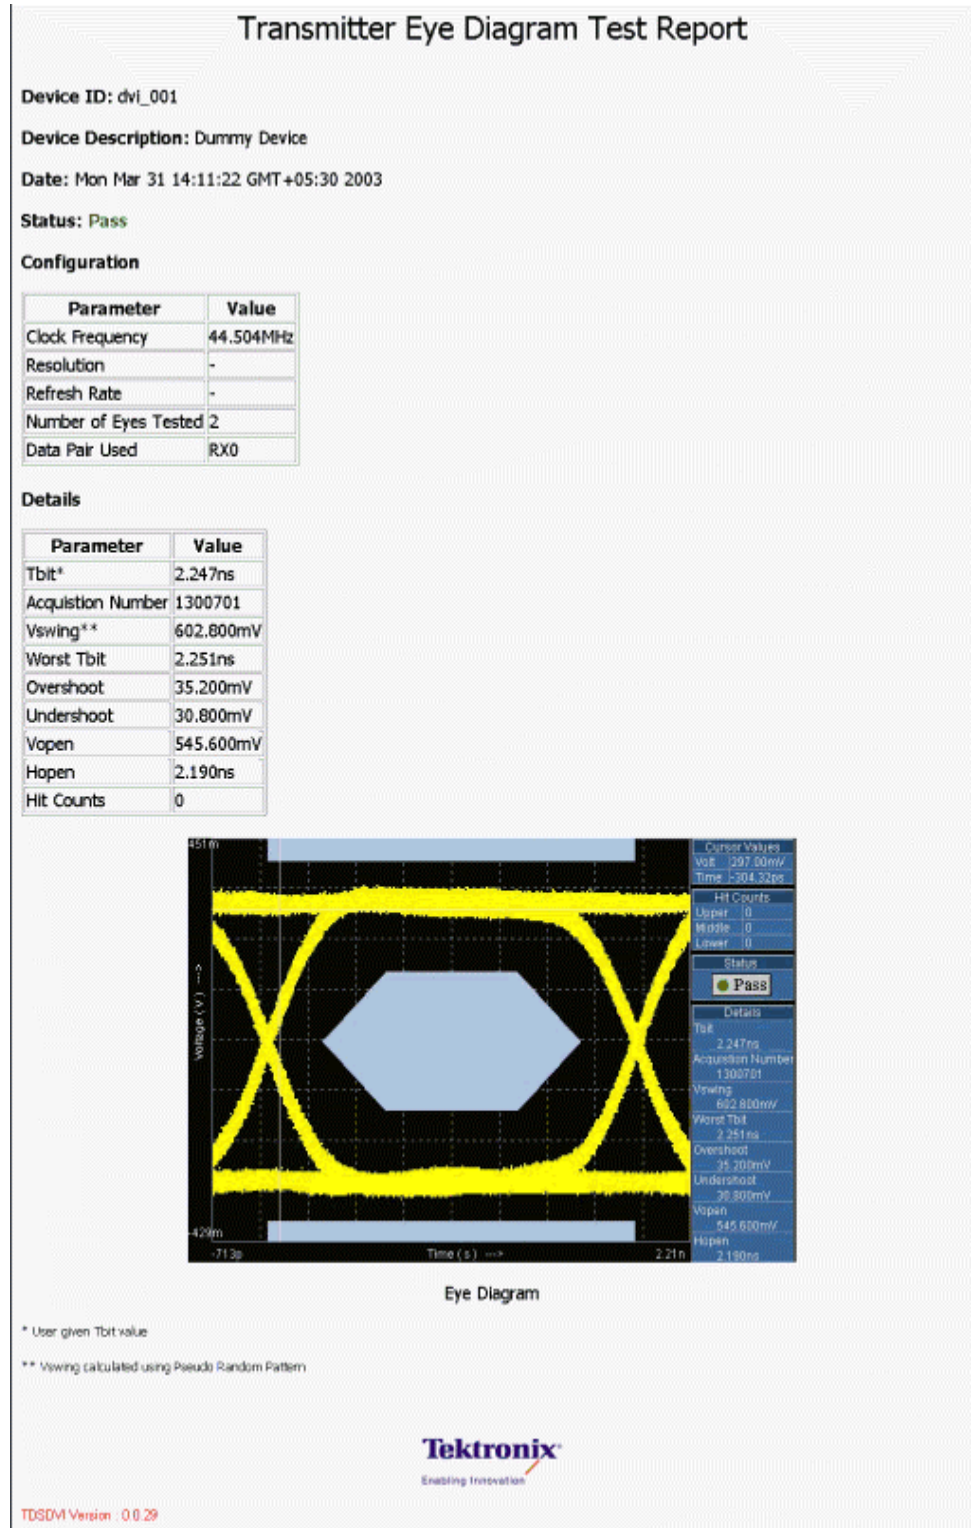

Figure 103: Eye Diagram report
- d. Select the Generate button to generate report an HTML report. Figure 103 shows a sample Eye Diagram report.